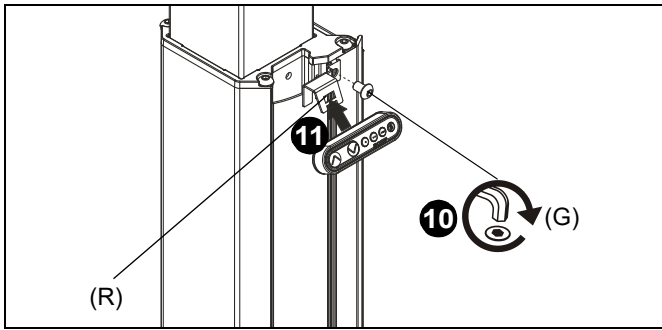
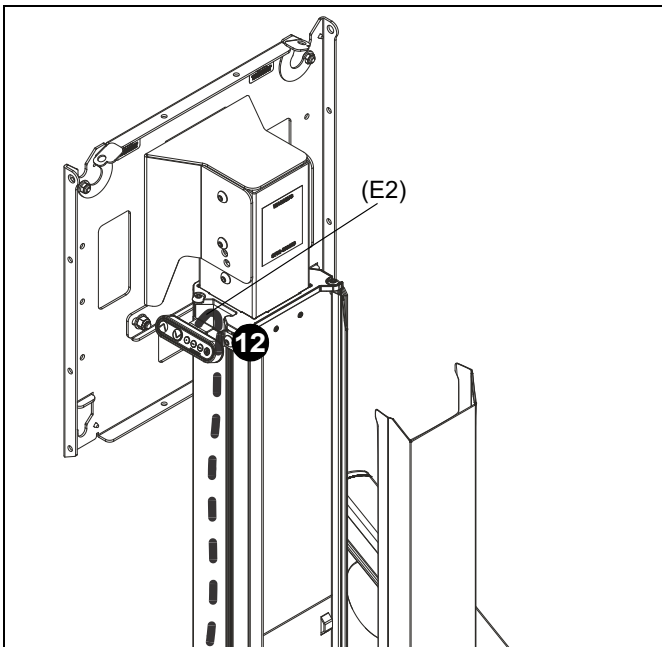
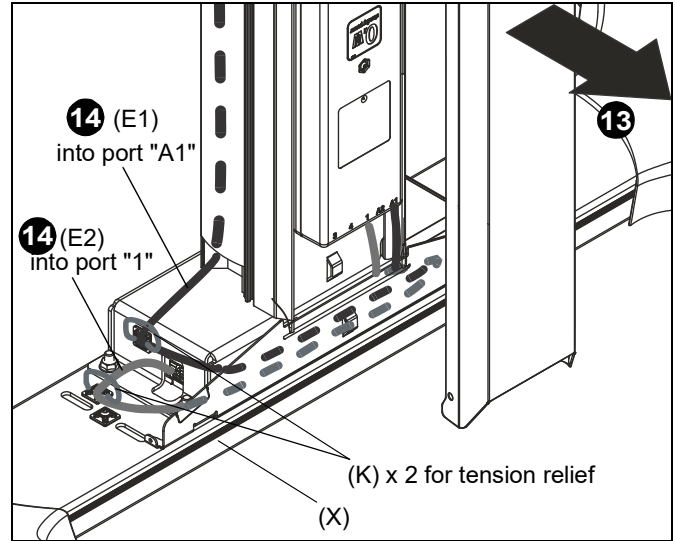

Figure 5
Figure 6
Figure 7
10. Attach control pad bracket (R) to column assembly (T) using 5/16-18 x 1/2" button head cap screw (G). (See Figure 5)
11. Secure control pad (E1) into control pad bracket (R). (See Figure 5)
**NOTE:** Control pad may also be attached to bottom of display using double-sided tape (U) after display has been installed.
12. Route control pad cable (E1) through side channel. (See Figure 6) and (See Figure 7)
13. Remove back cover to expose control box. (See Figure 7)
14. Route control pad cable (E1) and motor cable (E2) behind back cover plate (B1) and into corresponding ports on control box. (See Figure 7) and (See Figure 8)
**NOTE:** Use cable ties (K) and pre-installed cable clips to provide tension relief.